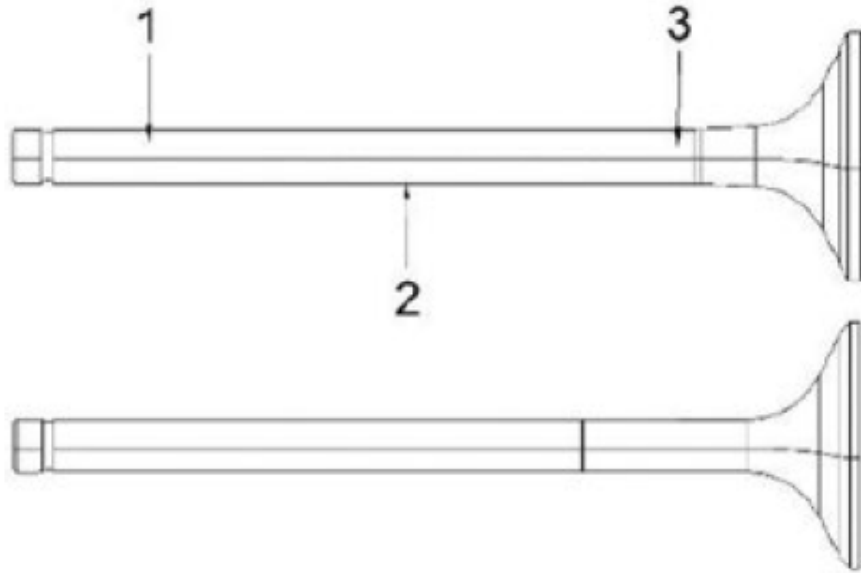

Figure 54. Valve Stem Diameter
3. Use a micrometer to measure the valve stem diameter. Measure the valve stem near the combustion end and near the opposite end (Figure 54). See Intake /Exhaust Valve and Guide chart for the service limit.